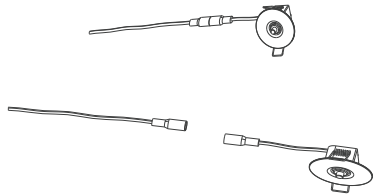

Figure 3-1
1. Disconnect the quick connector of the EM Inverter Ceiling Mount Indicator (refer to Figure 3-1).